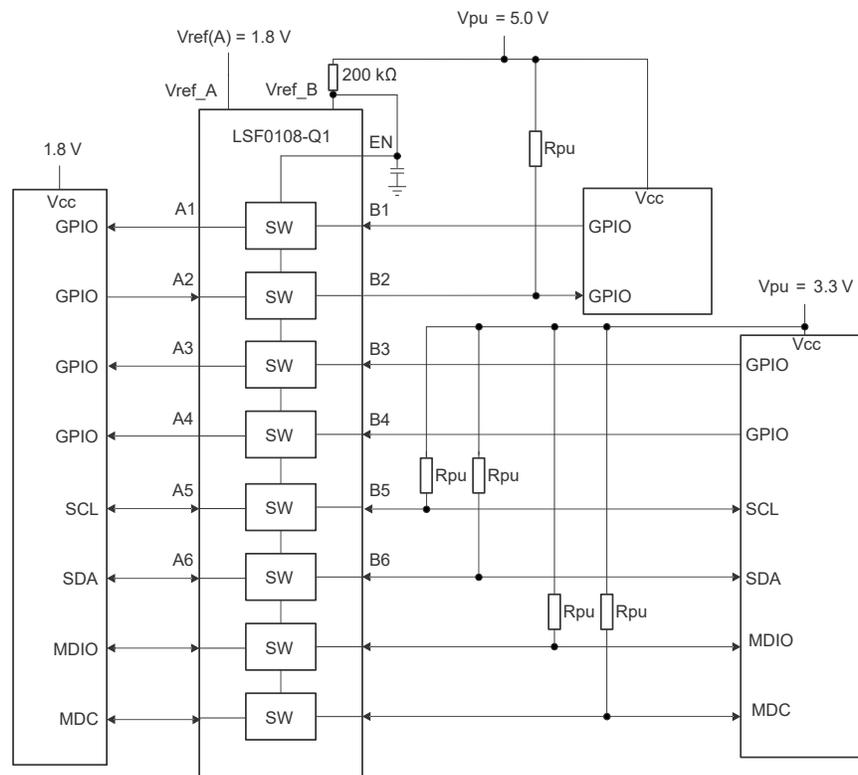

图 9-1. Bidirectional Translation to Multiple Voltage Levels
- VCCB/VCCA are not the same as Vref\_B or Vref\_A: VCCB refers to the B-side supply voltage supplied to the LSF device, while Vref\_B refers to the voltage at the Vref\_B pin (pin 7 of 图 9-1) on the other side of the 200 kΩ resistor
As shown in 图 9-1, the A1 and A2 channels have a maximum output voltage equal to  $V_{ref\_A}$ , and the B1 and B2 channels have a maximum output voltage equal to  $V_{pu}$  when  $V_{ref\_B}$  is connected through a 200-k $\Omega$  resistor to a 3.3-V  $V_{pu}$  power supply and  $V_{ref\_A}$  is set 1.8 V.
图 9-1 shows how the reference supply voltage (Vref\_A) is connected to the processor core power supply voltage. When Vref\_B is connected through a 200 kΩ resistor to a 3.3 V Vpu power supply, and Vref\_A is set 1 V. The output of A3 and B4 has a maximum output voltage equal to Vref\_A, and the bidirectional interface (Ch1/2, MDIO) has a maximum output voltage equal to Vpu.